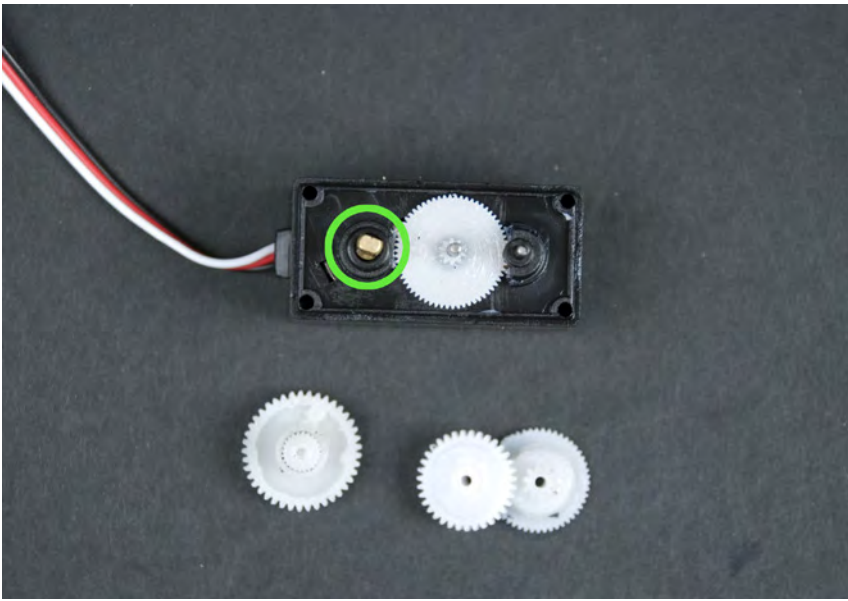

Figure 8-12. Shaft of the potentiometer
6. Next, you must prevent the servo from being able to determine its position. Lift off the gears. Under one of the gears, you'll find the shaft of a potentiometer (see Figure 8-12), which the servo uses to measure its position.